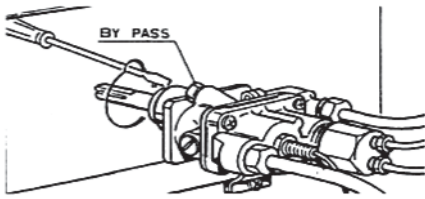

Figure 16
- Access the thermostat or tap by-pass (see fig. 16).